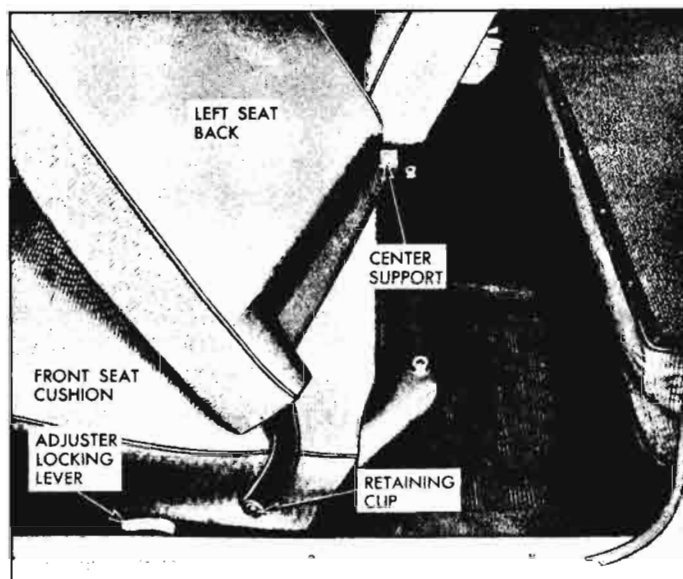

Fig. 10-97—Front Seat Back Installation
1. Tilt seat back forward and remove clip at side of front seat cushion. See Figure 10-97.